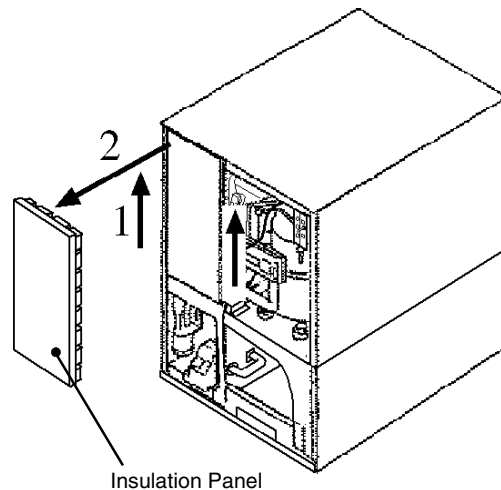

Fig. 8
- 4) Remove the Front Panel and the Base Cover. See Figs. 5 and 6. Then remove the Insulation Panel by lifting it up slightly and pulling it toward you. See Fig. 8.